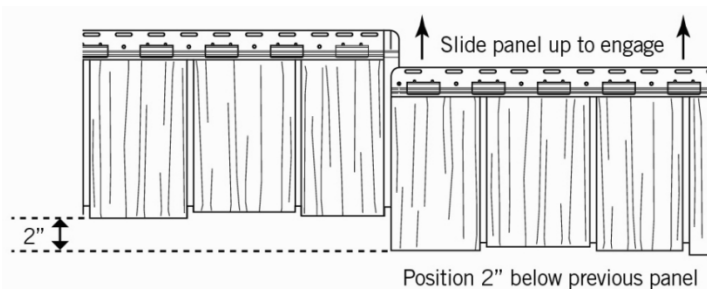

Figure 4
**STEP SEVEN:** For all succeeding panels of the present row, simply position the panel approximately 2 inches below the previous panel and slide upward making sure to engage the fingers and the bottom locking rail (Figure 4).